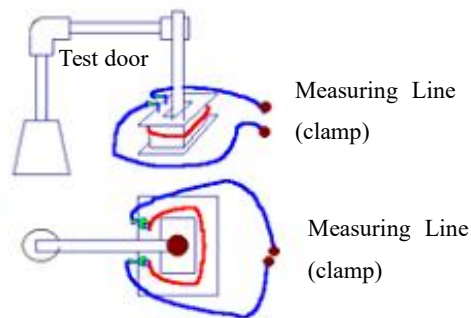

Fig. 9-3
9. 3. As shown in Fig. 9-3 (the lead is equal to not pass through the testing door), it is 0 turn, and when testing more turns, the total turns like this case shall be one turn less.